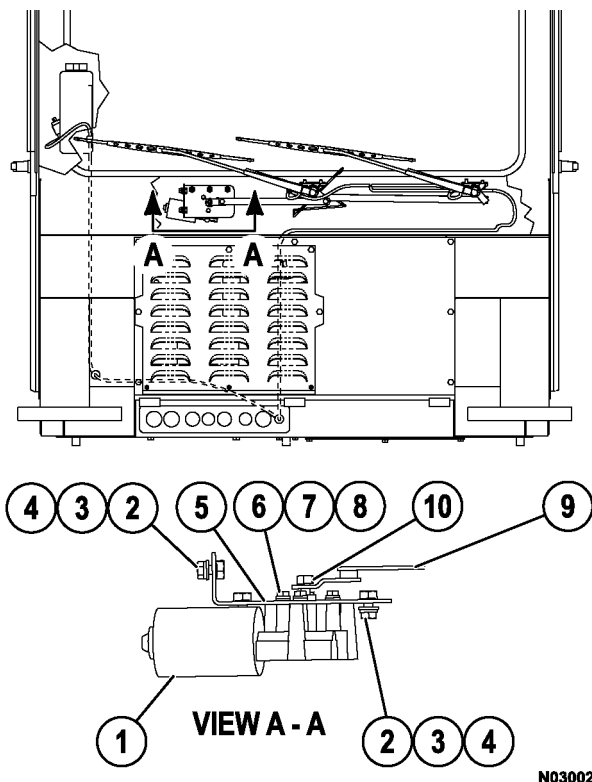

FIGURE 50-25. WINDSHIELD WIPER INSTALLATION
1. Place wiper motor (1, Figure 50-25) into position on plate (5).
2. Install three capscrews (6), flat washers (7) and lockwashers (8). Tighten the capscrews to **8-9 N·m (71-79 in lb)**.
3. Align the motor output shaft with wiper linkage (9). Install nut (10). Hold the linkage stationary and tighten the nut to **22-24 N·m (16-18 ft lb)**.